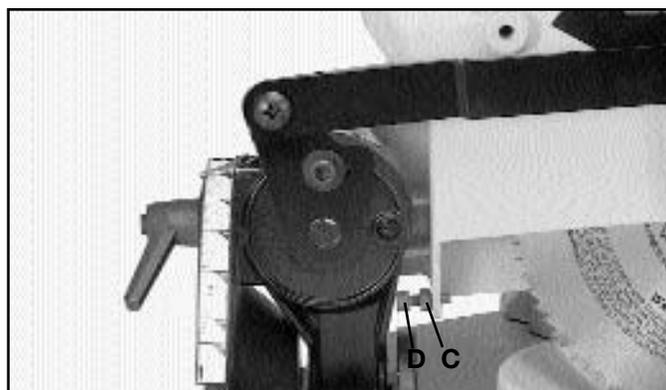

Fig. 18
2. Loosen lock nut (C) Fig. 18, and turn adjustment knob (D) right or left.
4. Tighten lock nut (C) Fig 18, after adjustment is made.